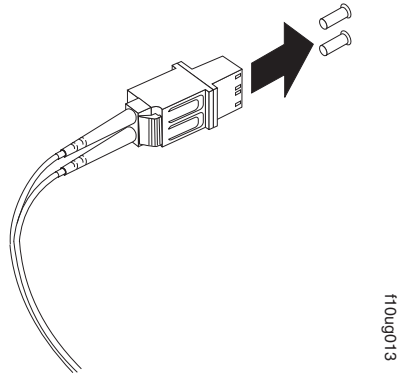

Figure 34. Removing the LC-SC cable adapter protective caps
3. Remove the two protective caps from the LC connector end of the LC-SC cable adapter as shown in Figure 34. Save the protective caps for future use.